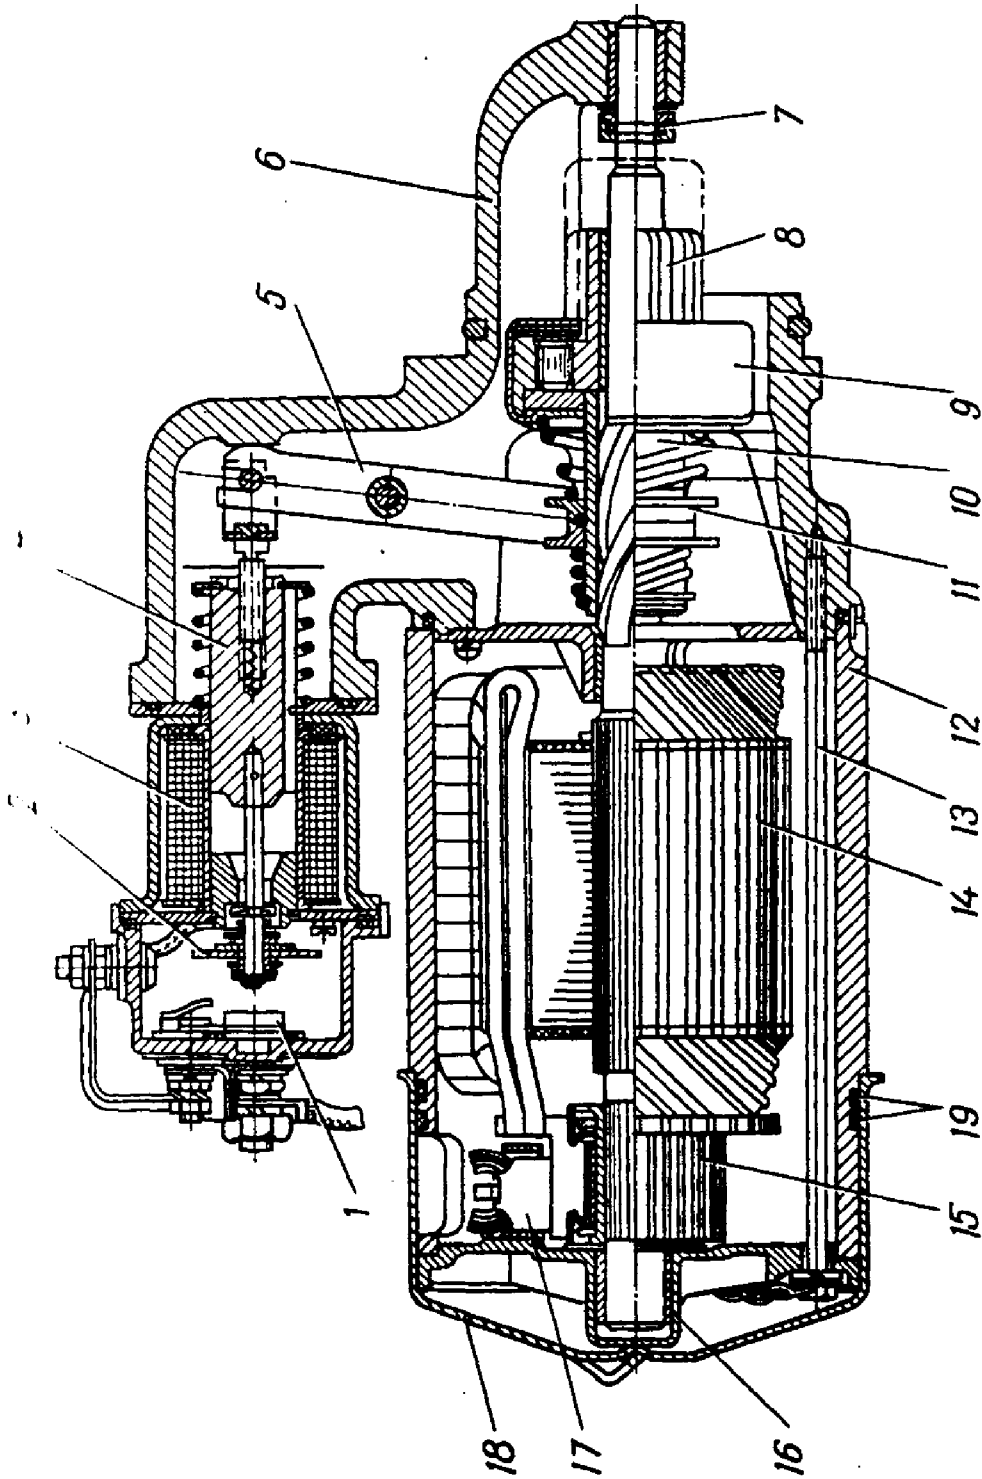

FIG. 48. STARTER
4. Swing aside the clamp holding cap 18 (Fig.48). Remove the protective cap by tapping it with a hammer through a copper plate held against the cap bead.